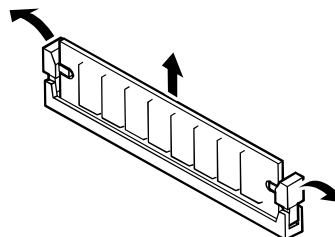

Figure 4-21. Removing a DIMM
3. Spread the latch levers located on both ends of the DIMM socket just enough to unlock the DIMM and remove it (see Figure 4-21). Store the DIMM in an antistatic package.